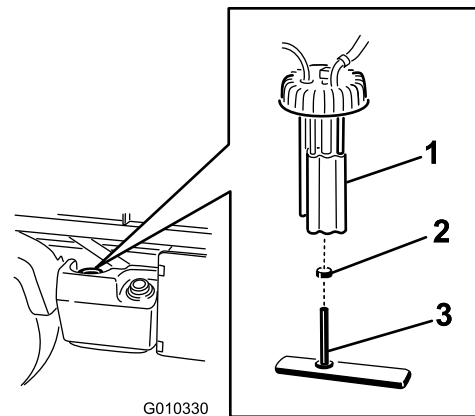

Figure 57
2. Unplug the wiring harness connectors from the fuel pump (Figure 57).
3. Loosen the hose clamp and disconnect the fuel line from the fuel pump (Figure 57).
4. Remove the fuel-pump cap by unthread it from the top of the fuel tank (Figure 57).
5. Remove the fuel pump assembly and fuel filter from the tank (Figure 57).
6. Remove the clamp securing the fuel filter hose to the fuel pump fitting (Figure 57).
7. Remove the hose from the fitting (Figure 57).